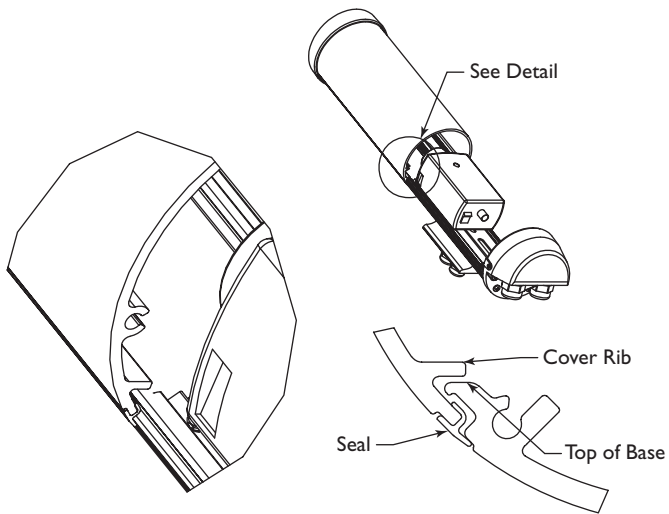

Figure 10: Reinstalling the Cover
2. Reinstall the cover. Align the bottom of the cover ribs with the top of the base. Slide the cover onto the base. Make sure the seal is not folded over or torn. Use silicone grease to lubricate the seals if necessary. **See Figure 10.**